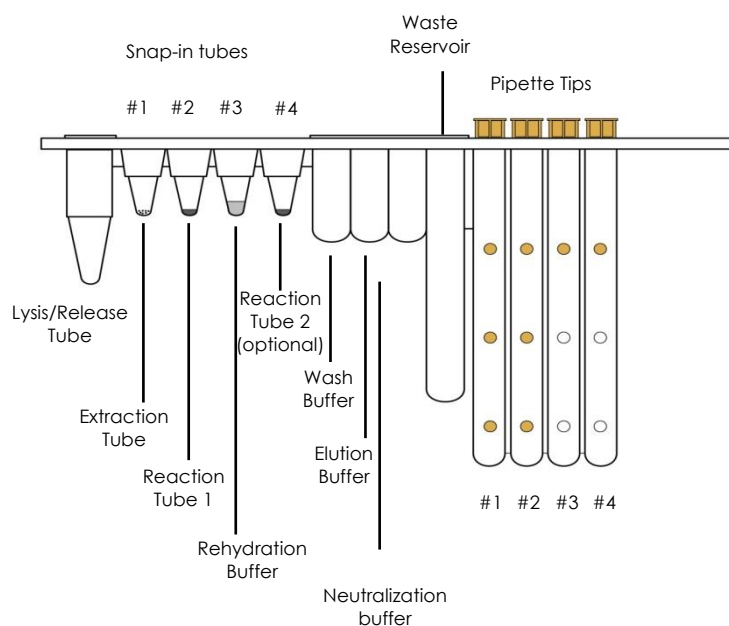

Figure 1. BD MAX™ TNA Reagent Strip (TNA) from the BD MAX™ ExK TNA-2 kit.
- Remove the required number of BD MAX™ ExK™ TNA Extraction Tubes (B4) (white foil) from their protective pouch. Snap the Extraction Tube(s) (white foil) into its corresponding positions in the TNA strip (Snap position 1, white color coding on the rack. See Figure 1). Remove excess air, and close pouch with the zip seal.
- Determine and separate the appropriate number of VIASURE *Vancomycin resistance* reaction tubes (blue foil) and snap into their corresponding positions in the strip (Snap position 2, green color coding on the rack. See Figure 1.
- Note: If you choose the format "Dual Master Mix Concentrated Lyophilized MM with Rehydration Buffer (Type 5)" (Section 8.3.1), determine and separate the appropriate number of additional VIASURE reaction tubes (different foil) and snap into their corresponding positions in the strip (Snap position 4, blue color coding on the rack. See Figure 1). Remove excess air, and close aluminum pouches with the zip seal.
- Remove the required number of Rehydration Buffer tubes (rust foil) and snap into their corresponding positions in the strip (Snap position 3, non-color coding on the rack. See Figure 1). Remove excess air, and close the pouch with the zip seal.